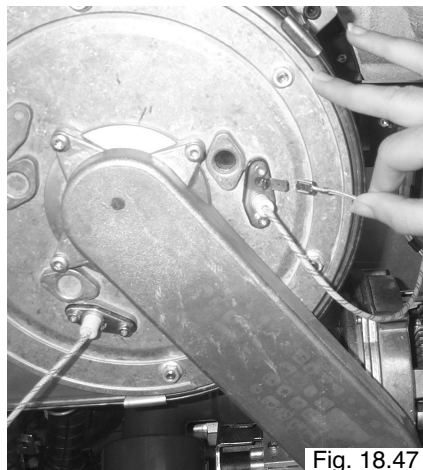

Fig. 18.47
2. Disconnect the earth cable from the ignition electrode. (Fig. 18.47);